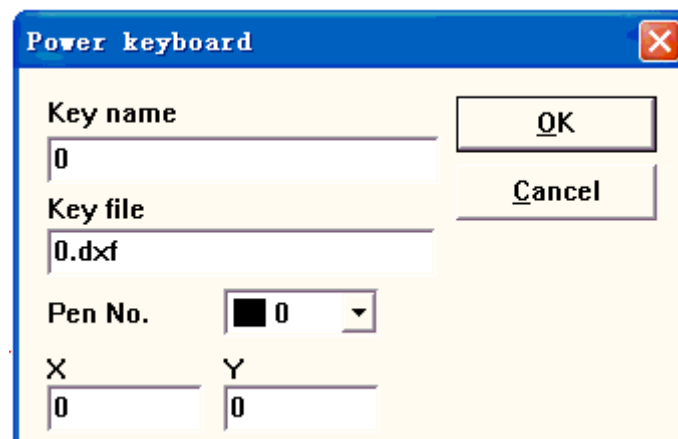

Figure 8-23
3. Click "Add" then the dialog box popup shown as Figure8-23: